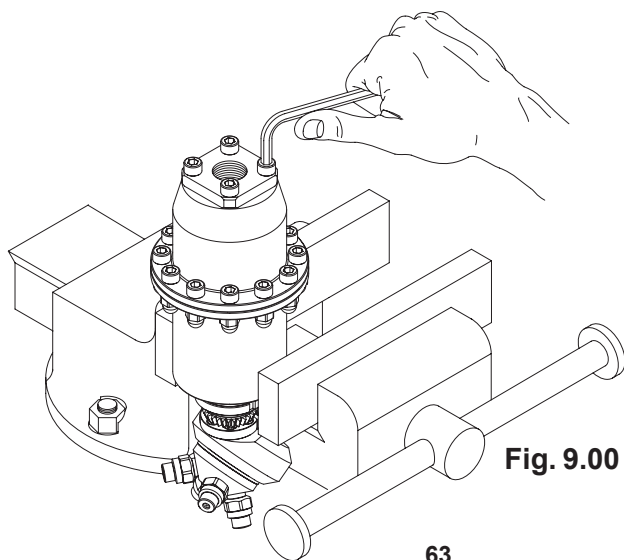

Fig. 9.00
9.1.01) Unscrew and remove the screws pos.57, disassemble the filter holder flange pos.62 and remove the cartridge pos.63 (Fig.9.00).